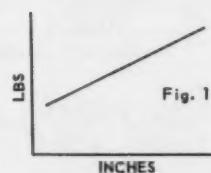

Fig. 1
The relation of the load to the deflection of the spring, the spring "gradient" (K), is usually expressed in terms of pounds per inch of deflection and the relationship can be plotted as illustrated by the sloping straight line in Fig. 1 and by line K in Fig. 2.